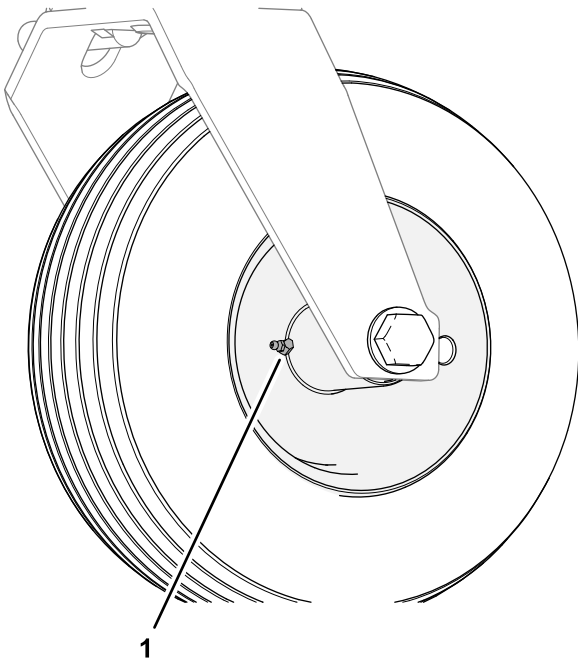

Figure 64
2. Connect a grease gun to the fitting in the hub of the caster wheel (Figure 64).